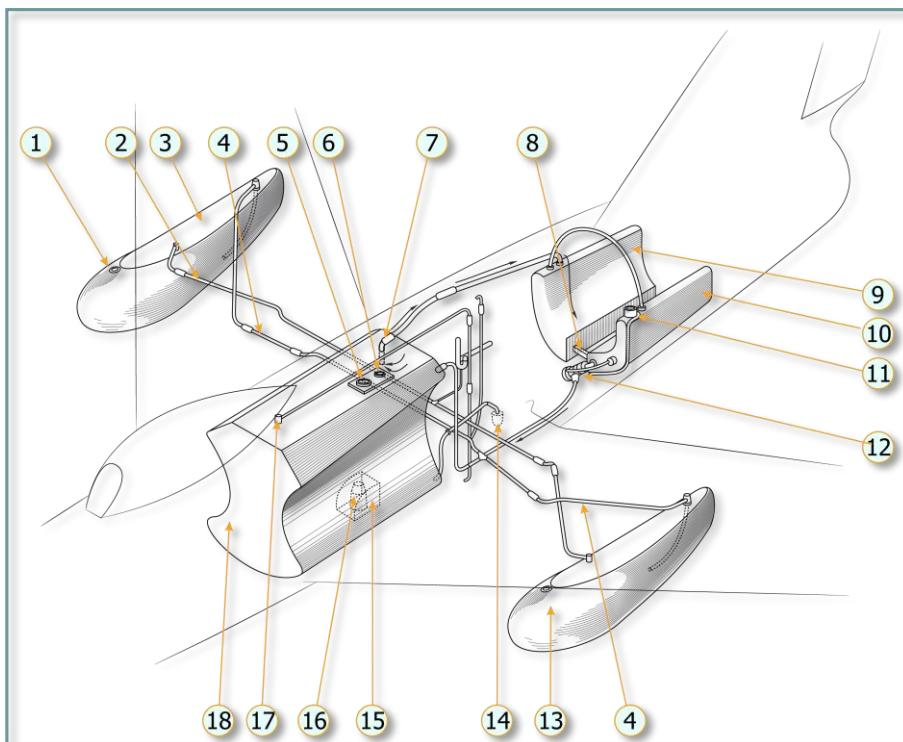

Figure 5.3. MiG-15bis fuel system
The purpose of the fuel system is onboard storage of fuel and its continuous supply to the engine. A schematic of the fuel system is shown in Figure 5.3.
- external tanks (3), (13), Figure 5.3, with a capacity of 300, 400 or 600 liters;
- air duct that supplies air under excessive pressure at 0.4 kg/cm² from the engine compressor to the tanks (2);
- fuel supply line to forward tank (tank 1) (4) with a floating valve that controls fuel supply (located under gauge (6)).
Note. At low engine RPM (less than 6.000 RPM) the ПОДВ. БАКИ (EXTERNAL DROP TANKS) warning light may illuminate in spite of the presence of fuel in external tanks. This is due to insufficient pressurization of fuel in the external tanks by the air from the compressor along the line Figure 5.3, 2.